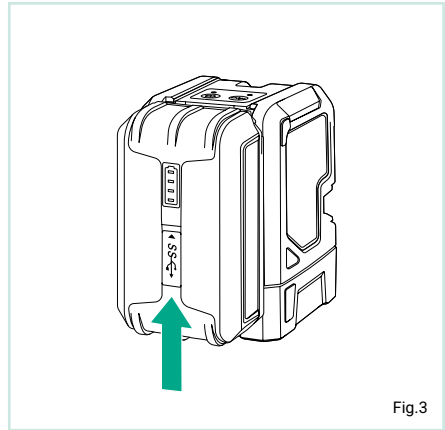

Fig.3
- To remove the battery pack, slide it upwards (Fig.3).